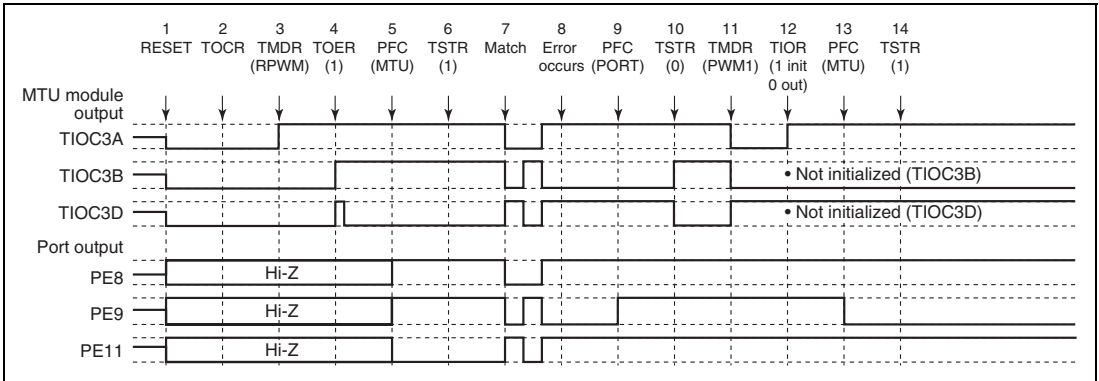

Figure 8.110 Error Occurrence in Reset-Synchronous PWM Mode, Recovery in PWM Mode 1
(27) Operation when Error Occurs during Reset-Synchronous PWM Mode Operation, and Operation is Restarted in PWM Mode 1: Figure 8.110 shows an explanatory diagram of the case where an error occurs in reset-synchronous PWM mode and operation is restarted in PWM mode 1 after re-setting.